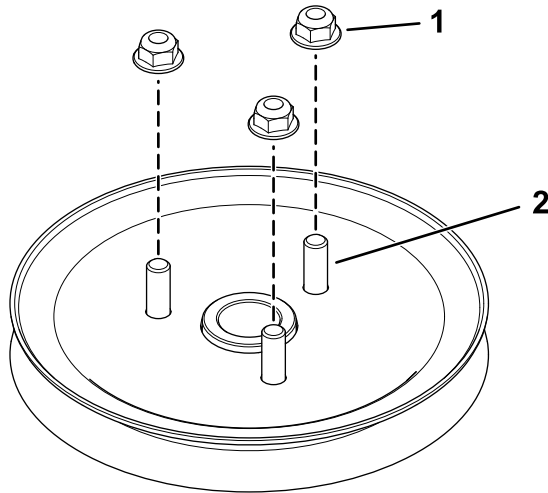

Figure 8
- Loosely install the 3 nuts to the studs (Figure 8). Leave a clearance of 5 mm (3/16 inch) between the nut and sheave.